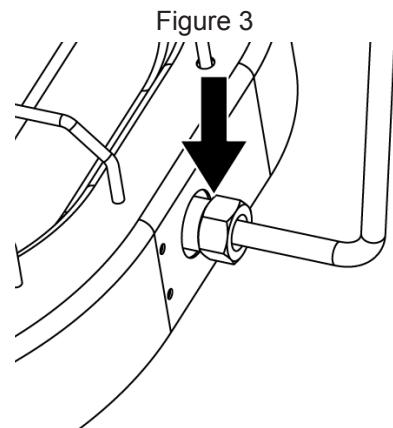

Figure 3
1. Make sure the control valve is securely fastened to the burner. (Figure 3)